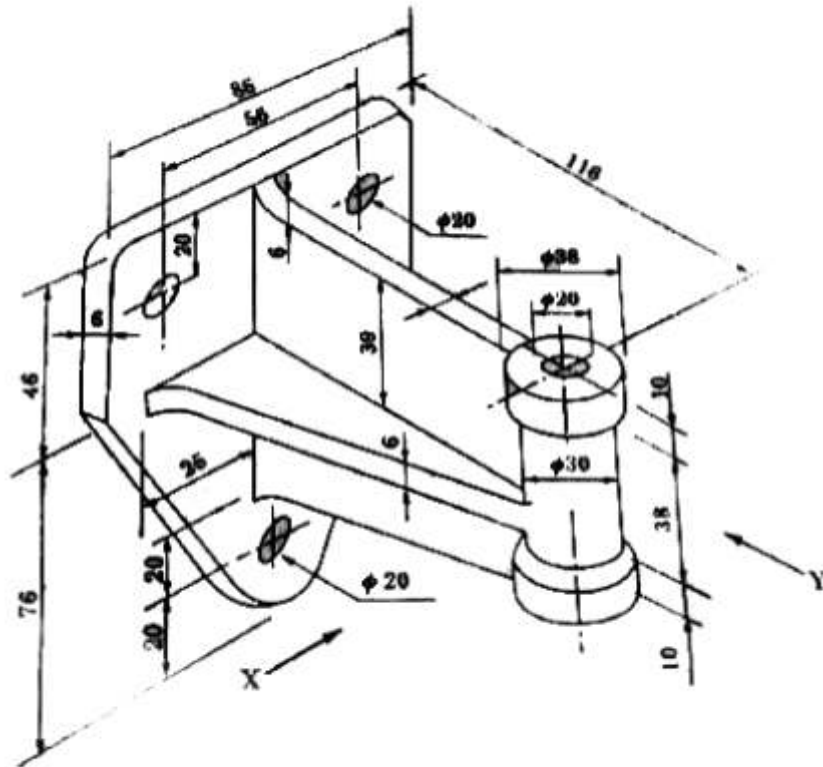

Figure 3. Wall Bracket
Q.17 Fig.3 show the Pictorial view of a wall bracket. Study the drawing carefully and draw the following views. (Assume any missing dimension)